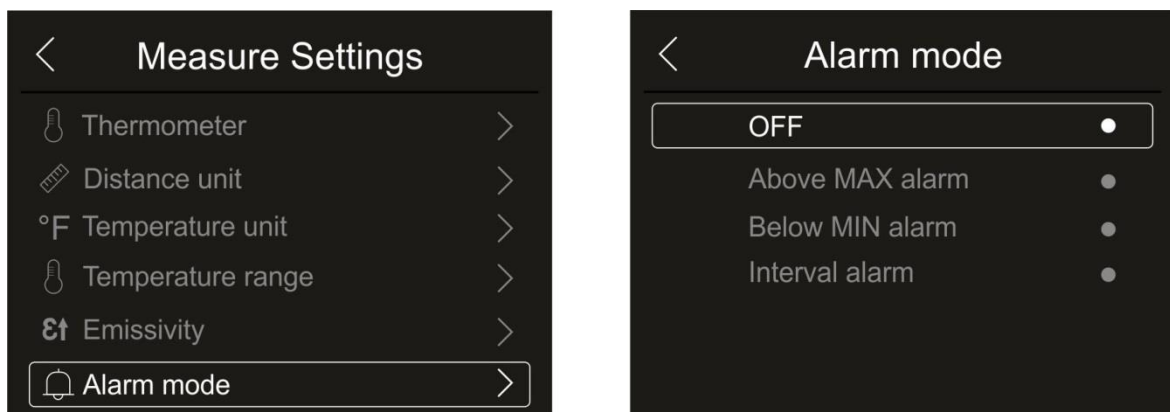

Fig. 29: Menu for Activation of alarm thresholds on measurements
1. Touch the item “Alarm mode” to activate the acoustic alarm thresholds on temperature measurement associated to the objects inserted onto the image (cursor, dots, lines and areas) associated to the “Alarm” function in the main menu (see § 5.3). The screen in Fig. 29 – right side appears on the display: